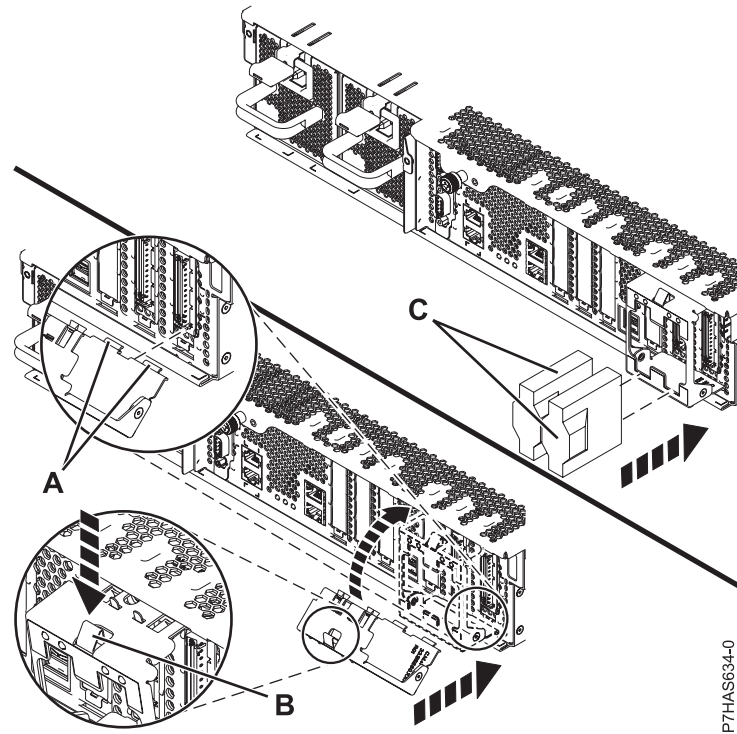

Figure 7. Installing the cable retention bracket
7. If the cable retention bracket, shown in Figure 7 on page 9 is provided, perform the following steps:
- a. Tilt the cable retention bracket (A), shown in Figure 7 on page 9, to hook the tab at the bottom of the bracket into the slot in the assembly.
- b. Swing the cable retention bracket toward the chassis and push the bracket fastener (B) into the chassis opening to secure the bracket.
8. From the rear of the system, attach the adapter cables (C).